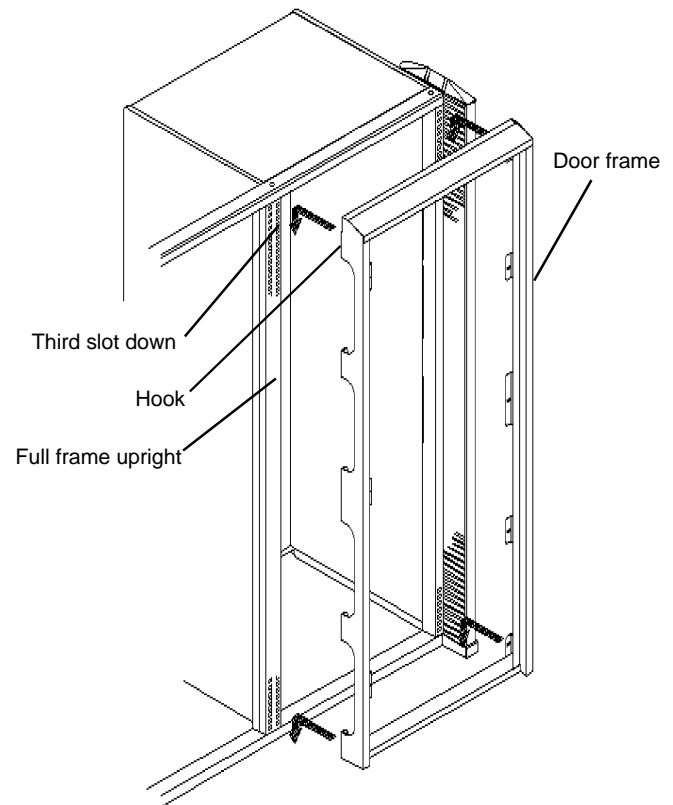

Figure 4
4. Lift the Door Frame up and engage the hooks on the back of the Frame into the Full Frame Slotted Uprights. For the 84", 72", and 61" high "full height" Service Doors the top hooks should engage the third slot down from the top of each Upright. This will align the top of the Door Frame with the top of the Full Frame trim. For 38" and 24" high Service Doors, position the Door Frame so that the top of the Frame is even with the top of the LAN Locker which has been previously installed. See **Figure 4**.